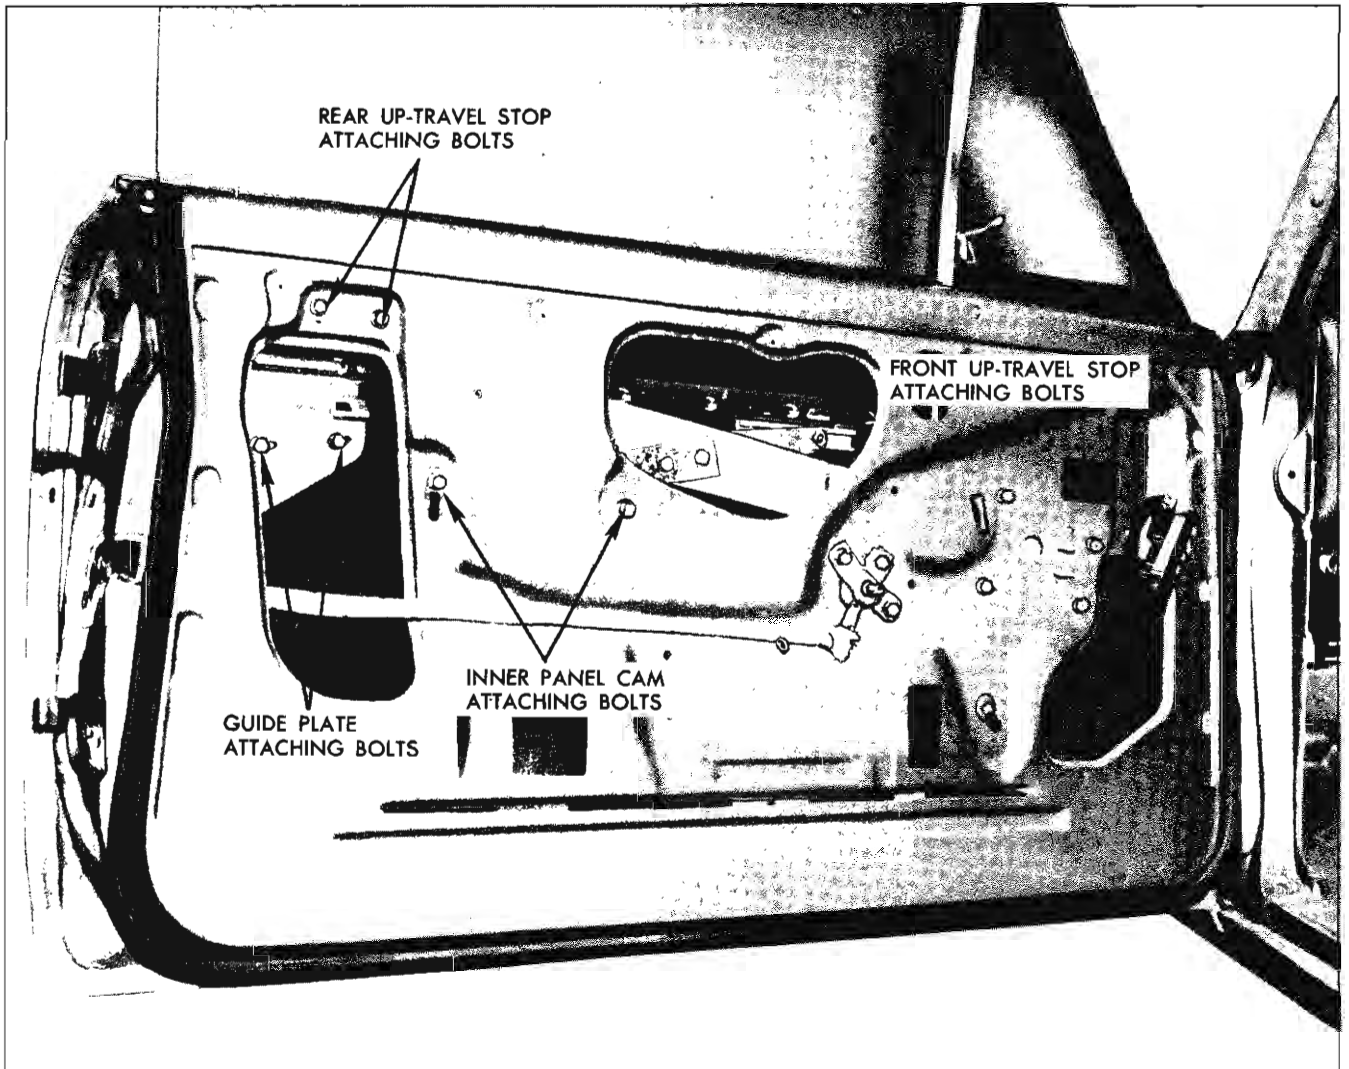

Fig. 12-21 Door Hardware
3. Remove two bolts securing rear up-travel stop to inner panel and one bolt securing front up-travel stop to lower sash channel and remove stops (Fig. 12-21).
5. The lower sash channel cams can now be moved even with or slightly higher than the belt line of outer panel. Move glass to this high point position and slide assembly rearward to disengage regulator arm rollers from front and rear sash channel cams and remove window (Fig. 12-21).
The front door window is adjustable fore or aft by adjusting the guide plate (Fig. 12-21). Up and down adjustment is available at the front and rear up-travel stops; rotation of glass is available at the inner panel cam, and in and out adjustment at rear
edge is available at the rear run channel lower attaching bolt. A slight fore and aft adjustment is available at front edge of glass by adjusting the ventilator division channel at lower adjusting stud and nut (See Fig. 12-21).
2. Remove two attaching bolts and slide cam out of engagement with regulator balance arm roller and remove cam. (Fig. 12-21).